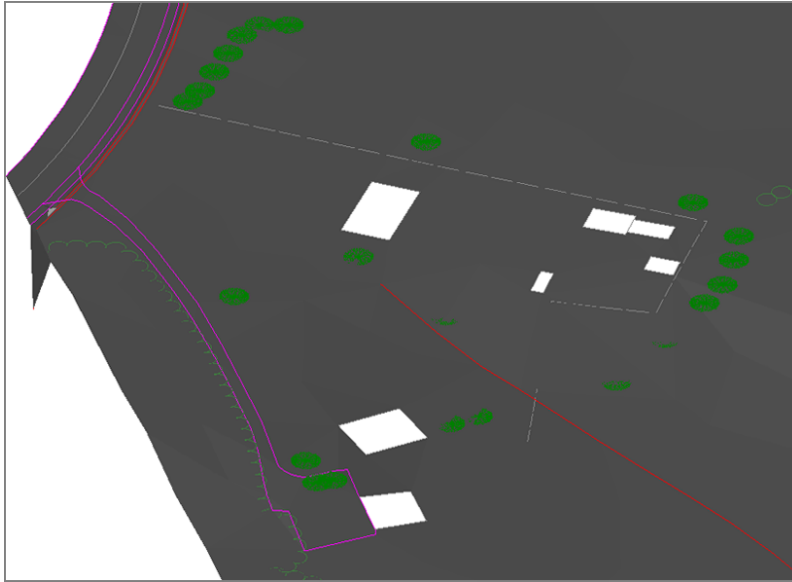

FIGURE 4.12 The effect of hide boundaries added at building locations
6. In the lower-right viewport, zoom in to the area of the buildings, and notice that there are now voids where the buildings are located, as shown in Figure 4.12.